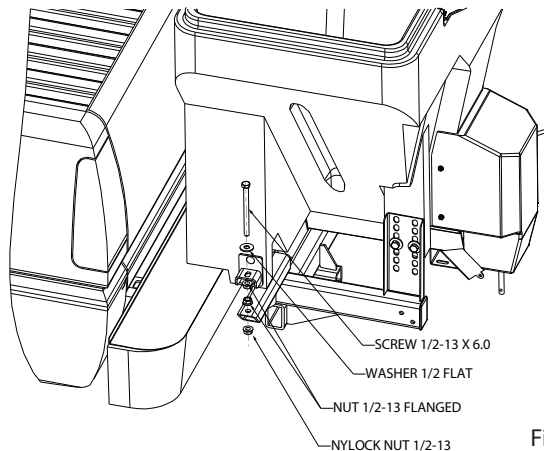

Fig. 5
5. Assembly 1/2-13 x 6.0 screws with flat washers and 1/2-13 flanged nuts and nylock nuts as shown in Fig.5. Make sure that nuts located between hopper side brackets and frame positioned exactly as shown. These nuts must not be in contact with brackets and frame at this time.